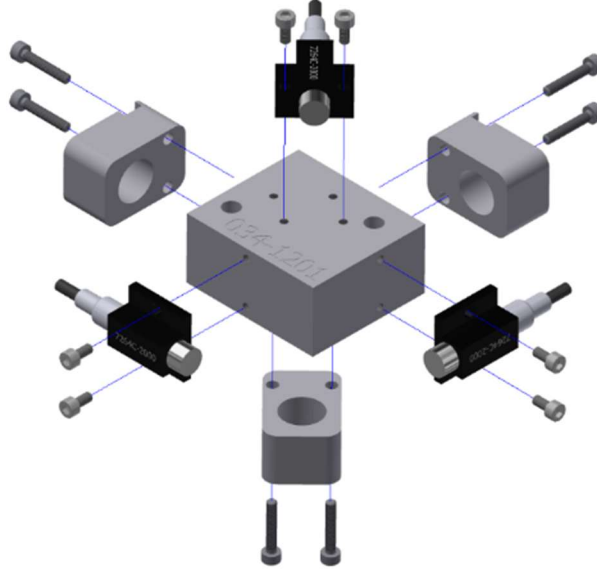

Figure 3-22. Exploded head accel/ARS mount
- 3.3.2 Install three uniaxial accelerometers (SA572-S4) and three ARSs (S572-S58) onto the 6 axis accel /ARS mount (SA572-S87) using two M1.4 X 0.3 X 3 LG. SHCS per accelerometer and two M1.4 X 0.3 X 8 LG. SHCS per ARS. Orient the three head CG accelerometer units: +X to the front, +Y to the right, and +Z down (Figure 3-22).